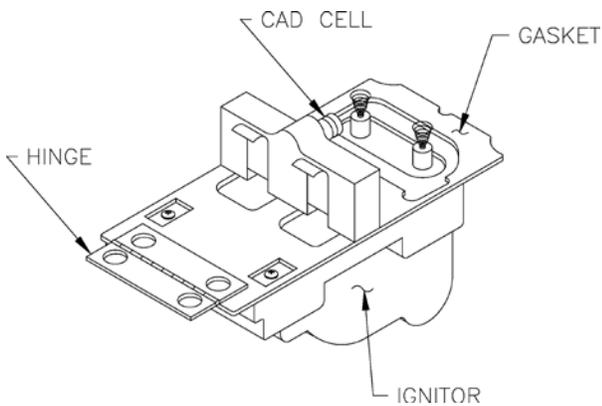

Figure 26: Cad Cell Location
- iv. Cad Cell Check: See Figure 26.